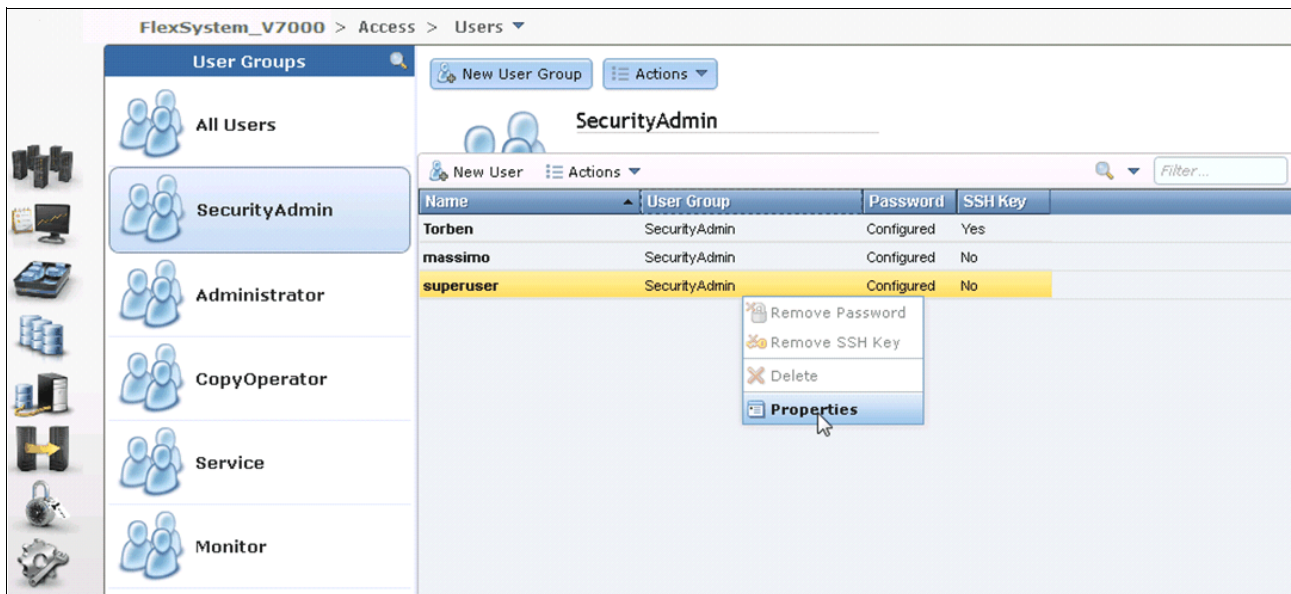

Figure A-7 Superuser properties
2. Right-click the user for which you want to upload the key and click **Properties** (Figure A-7).